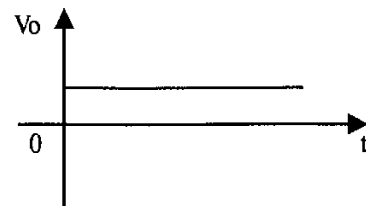

Fig. 2.5
- DC and "I/DIV" switch at IR, the collector is applied with continuous DC voltage, rectified and filtered (see fig. 2.5);